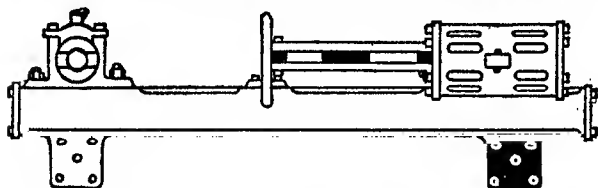
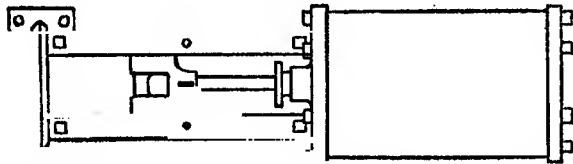

FIG. 37.—ENGINE BOX FRAME WITH LOCOMOTIVE GUIDES.
FIG. 39.—TOP VIEW LOCOMOTIVE STYLE CROSSHEAD AND GUIDES.
**Engine Frame.**—The engine frame may be one of several distinct types; however, only the girder type and box frame are used to any extent on farm engines. The latter is not used to as large an extent as the former except in the case of light engines. It consists of a hollow casting the length of the engine to which the cylinder is secured at one end, and the bearing for the crank shaft at the opposite end (Fig. 37).
these bars. A side view of this type is shown in Fig. 37 while Fig. 39 shows a top view with crosshead in position. The crosshead is not adjustable and any lost motion from wear must be taken up by changing the position of the guide bars. Side play is prevented by the guide bars having a bearing on each side of the crosshead, while the up and down motion is prevented by the top and bottom bearings of the crosshead. When these guides are adjusted in the proper manner they will do the work for which they are
**Piston Rod to Crosshead.**—In the locomotive crosshead (Fig. 39) the piston rod is usually fastened to the crosshead with a taper key. The rod is turned to a slight taper which fits snugly in a corresponding tapered hole in the crosshead. The tapered key when driven up tightly draws the rod very securely into the crosshead. This method has the disadvantage of not allowing any adjustment of the piston rod as to length and the clearance must be adjusted in the connecting rod boxes.